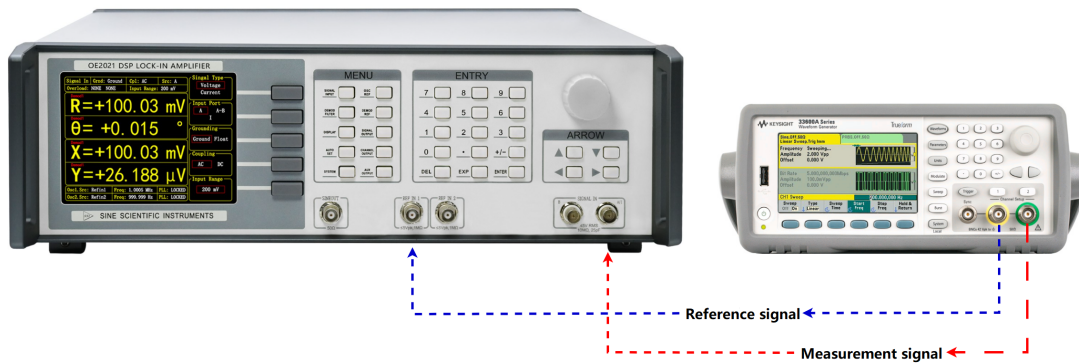

Figure 92. Signal Cable Connection Diagram
2. Use a signal cable with BNC connectors to connect the output connector of the function generator to the IN+ connector of SIGNAL IN on the front panel of the OE2021. Use another BNC signal cable to connect the synchronous reference signal connector of the function generator to the REF IN 1 connector on the front panel of the OE2021, as shown in Figure 92.